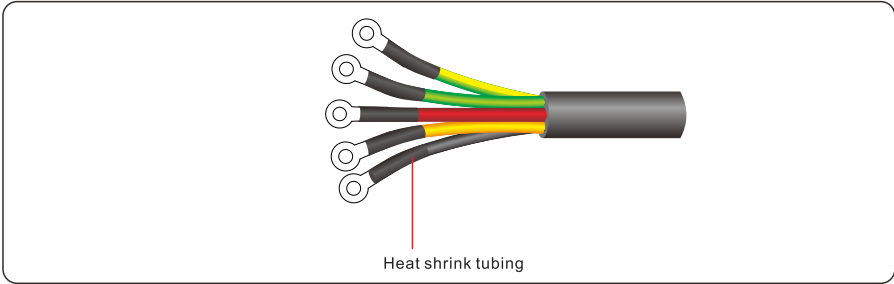

Figure 5.5 Crimping the OT terminal
Step 2 Insert the exposed core wires into the crimp area of the OT terminal and crimp them using hydraulic pliers. Wrap the wire crimp area with heat shrink tubing or PVC insulation tape, as shown in Figure 5.5.